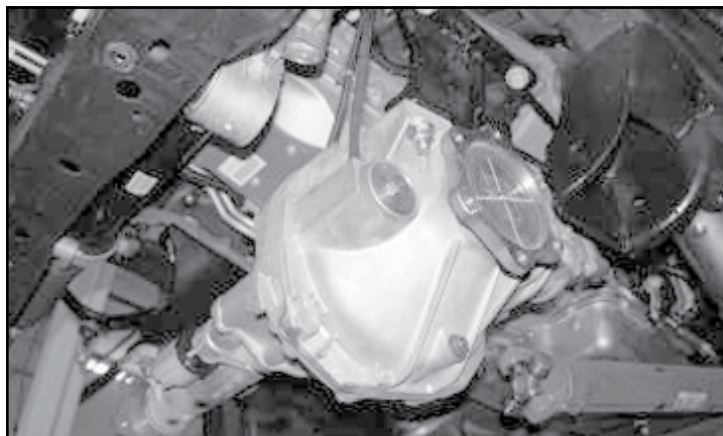

FIGURE 24 - STEP 19
19. Locate the supplied $\frac{1}{2}$ " x $1 \frac{3}{4}$ " hardware and the front diff. Install the diff onto the new drop brackets using the $\frac{1}{2}$ " hardware. Torque the $\frac{1}{2}$ " hardware to 127 ft-lbs. Re-connect the electrical and vacuum connections back onto the diff. **(CHECK THE CLEARANCE OF THE DIFF TO THE FRAME IN SANDED AND CUT SPOTS ON THE DIFF. FOR ADEQUATE CLEARANCE TO THE FRAME AND CROSSMEMBER).** SEE FIGURE 24